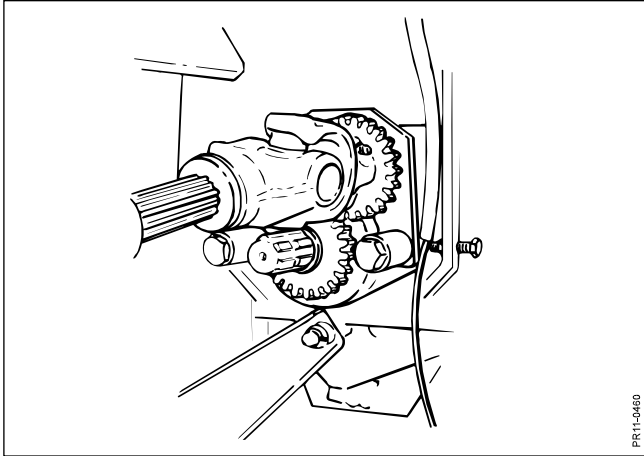

Fig. 4-27
- Fig. 4-27** 4. Mount the PTO drive shaft for the rotor on the free pin on the rotor housing. The PTO drive shaft must be fixed at position 2, where the gear wheels are engaged and the rotor will rotate in the opposite direction.